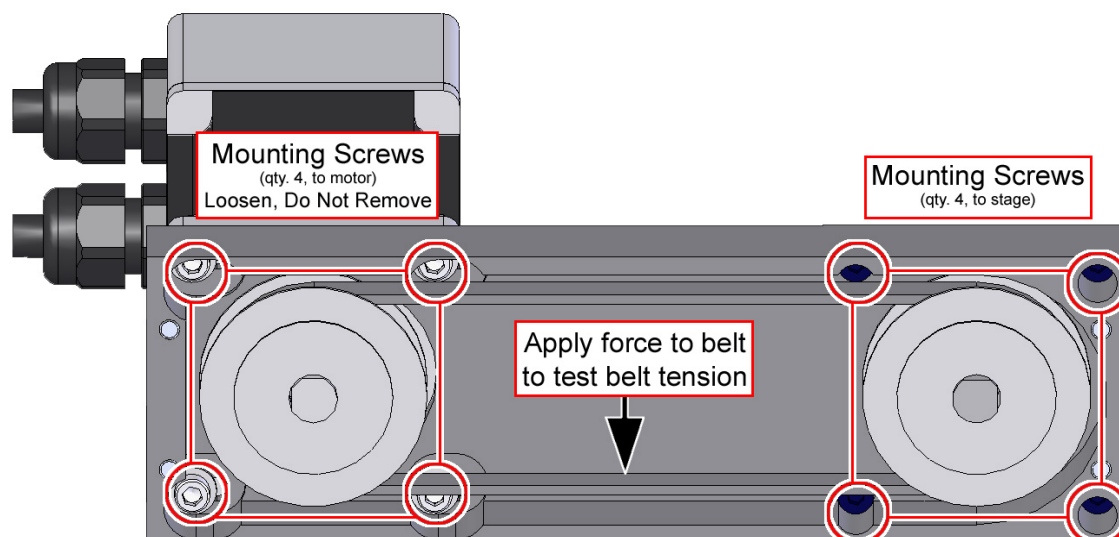

Figure 4-5: Belt Access and Adjustment on Foldback Models (Mounting Screws)
When lubricating and cleaning the stage, it is recommended that belt tension be checked. Deflection in the belt should be less than 5 mm when applying a downward force directly between the pulleys (Figure 4-5) of approximately 5 N. If deflection exceeds this range, the belt tension should be adjusted. The method of adjustment is outlined below.
2. Remove the four mounting screws for the foldback cover (Figure 4-5).
4. If adjustment is required, loosen (but do not remove) the four motor mounting screws (Figure 4-5).